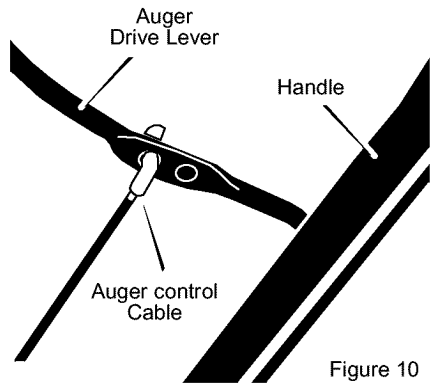

Figure 10
4. Install the **auger control cable** in the hole shown in Figure 10.